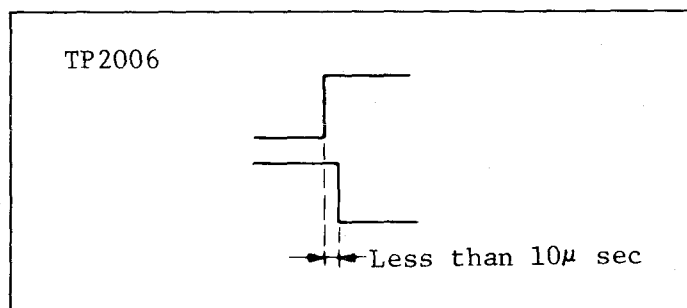

Fig. E8
6. Then adjust PG 1 (R2118) on the servo board so that the difference between the rising edge and trailing edge is as shown Fig.E8. Change the slope selector on the scope the either \pm (plus) or - (minus) and adjust for less than $10\mu\text{sec}$.